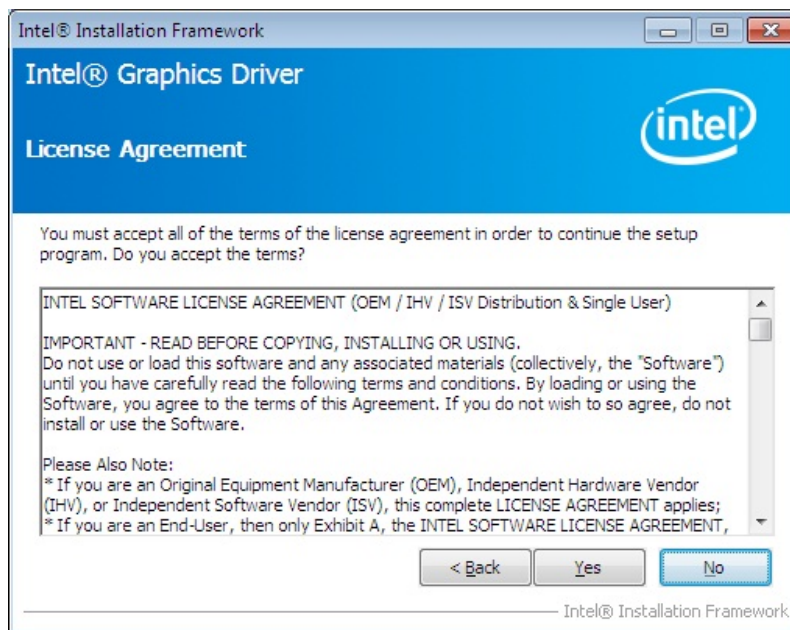

Figure 6-9: Graphics Driver License Agreement
Step 6: The **License Agreement** in **Figure 6-9** appears.